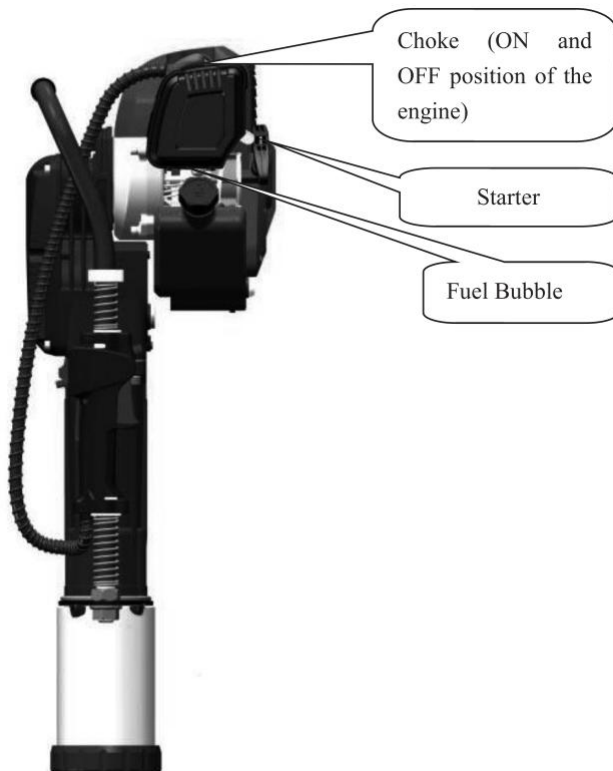

Fig 4
5.1. Before starting the new machine, press the transparent and semi-circle fuel bubble repeatedly (Fig.4) until carburetor is filled with fuel. (If the engine is cool, close the air door. Open air door after starting.)
5.2.Set the machine upright according to Fig.4.Hold the upperpart of handle tightly with one hand while theother pulls the pulling handle of starter for over 50cm quickly.Do not let the pulling handle goback freely inrepeated pulling but hold it tightly to avoid injury resulting from quick resilience.